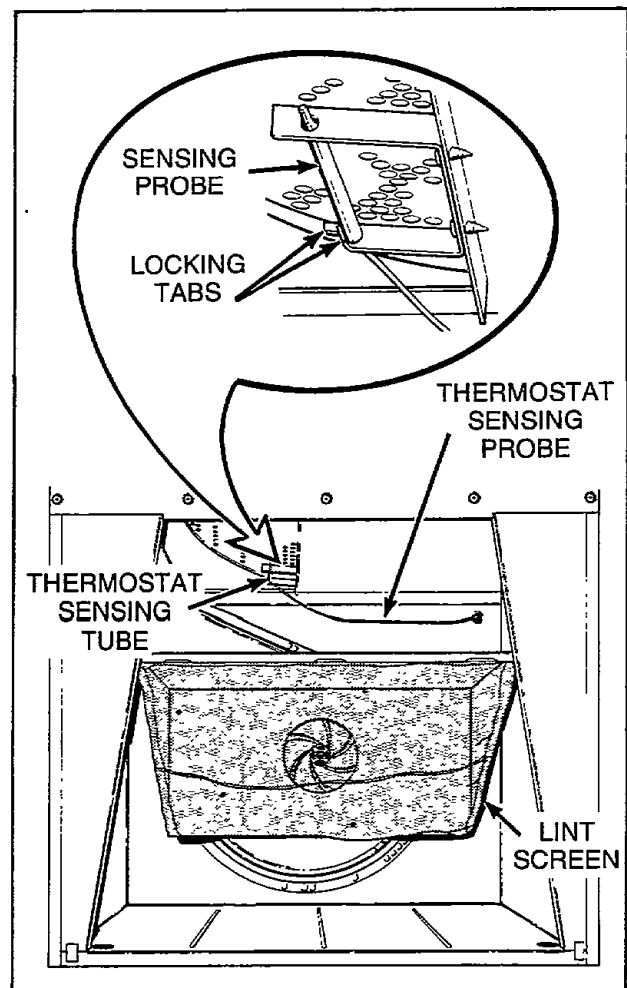

Figure 13
- i. Spread locking tabs on sensing probe bracket, *Figure 13*.